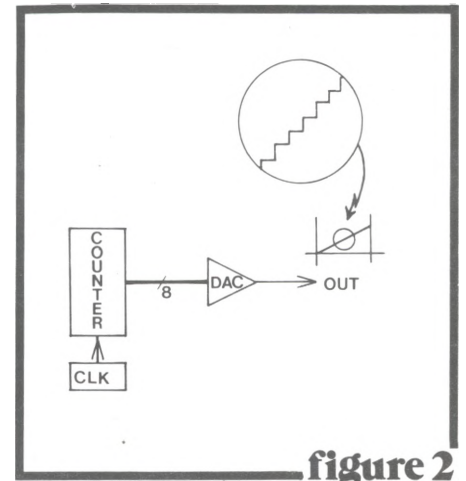
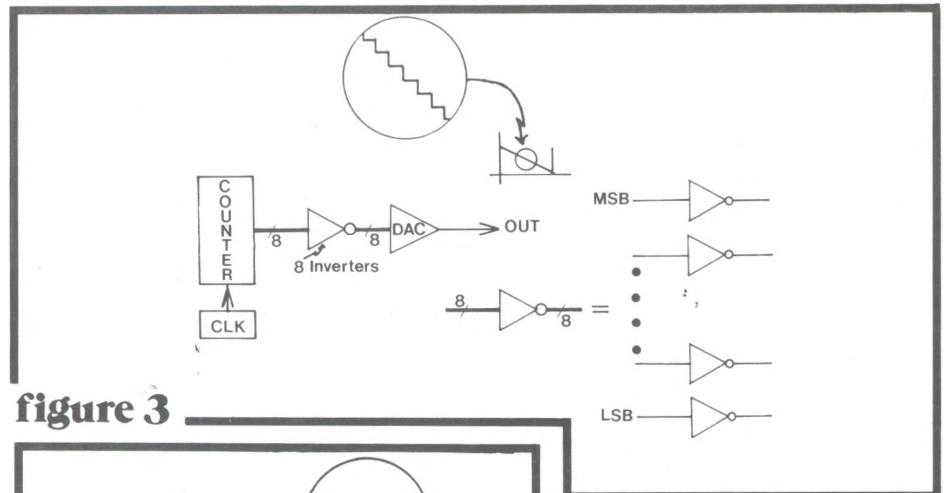
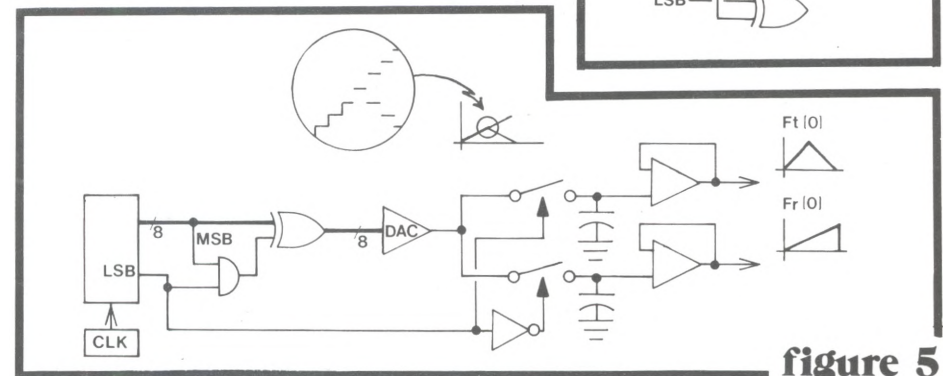

figure 2
figure 3
figure 5
No doubt, but let's look at a way to do essentially the same thing with counters, DACs, MUXes, and such...things we can get today. Figure 2 shows some components which we'll use in the Shepard Function Generator (as you probably realize, a counter connected directly to a DAC generates ramps). If the counter is counting up, upward sloping ramps come out. Having the counter count down, or inverting the counter output before it gets to the DAC, produces downward ramps (see figure 3).
If we're interested in generating only a single function pair, it's a simple matter to pick up a new Least Significant Bit on the counter and use it to effectively switch back and forth between the circuitry of figures 3 and 4, producing first a small section of the ramp, and then a small section of the triangle. This new LSB also switches between two sample-and-hold circuits to de-multiplex the composite output of the DAC. Figure 5 shows how a little more logic gives $Fr(0)$ and $Ft(0)$.
Figure 7 shows a block diagram of the complete Eight Phase Shepard Function Generator which results when we include an added IC to calculate digital phase offsets and de-multiplex the output with 8/1 analog switch ICs; figure 8 shows the schematic for the complete Shepard Function Generator. In the same way that the circuit of figure 5 alternately generated pieces of Fr(0) and Ft(0), the Shepard Function Generator sequentially puts out pieces of Fr(0), Ft(0), Fr(1), Ft(1), Fr(2).....Ft(6), Fr(7), Ft(7).
The next "Less Significant" bit can be thought of as switching back and forth between ramps and triangles, as in figure 5. And since figure 7 is a block diagram of our working Shepard Function Generator, and not just theoretical like the previous figures, the Least Significant Bit of the counter serves as a strobe which allows time for the DAC to settle
In the configuration show in figure 2, the frequency of all the VCOs/VCFs could be set by either the keyboard or the sequencer, and could be modulated by either an LFO or an ADSR. In practice, this switching capability allows control of the synthesizer to be dominated by either of the two completely different sources. For example, you could be playing the lead voice of a composition with the keyboard and LFO in control, and then switch to a sequencer/-ADSR-controlled bridge or riff at some point in the piece, and then
or off as with the CV bus switch, I found that it would be useful to be able to select one of two trigger bus lines to fire each ADSR/AR. In this way, for example, certain ADSRs/ARs can be triggered from one source. say the step trigger from the keyboard, while others on the bus are simultaneously triggered by other sources (LFO, pulse trigger from the keyboard, etc.) as shown in figure 5. But wait...note that the Bus Distribution panel still has each of the two trigger bus lines to carry